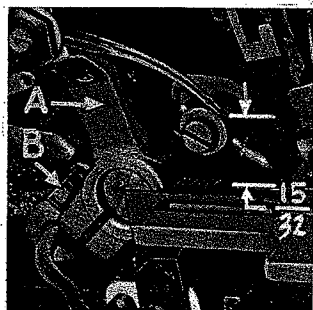

Fig. 4
With throat plate in position, needles should center in the front end of needle slot. When needles are at high position, the needle points should be set 15/32 inch above throat plate (Fig. 4) for 39500 AC.
For 39500 AB, 39500 AE the needle points should be set  $\frac{7}{16}$  inch above the throat plate. Move needle driving arm (A, Fig. 4) by loosening clamp screw (B). Remove throat plate.